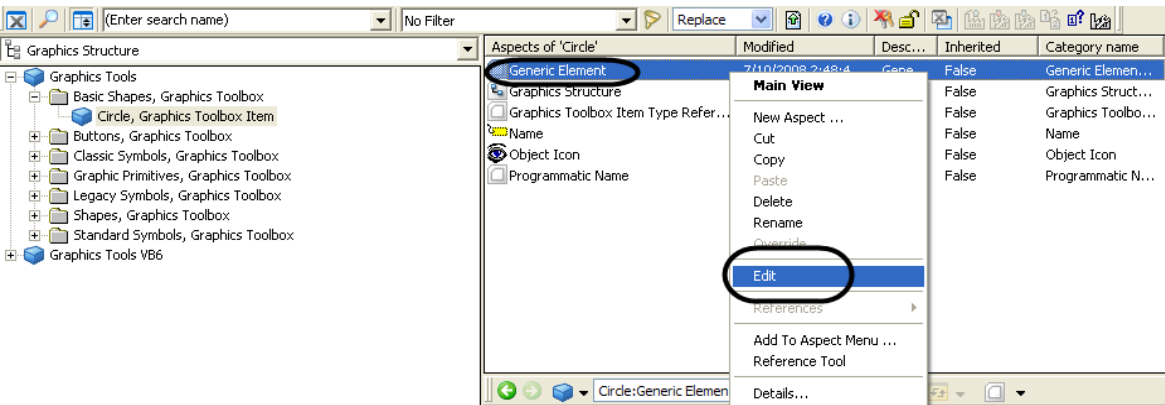

Figure 273. Editing Generic Element and Programmatic Name
Generic Element appears for the object in the aspect list as shown in Figure 273.
- 3. Select the **Programmatic Name** aspect of the toolbox item object as shown in Figure 273.